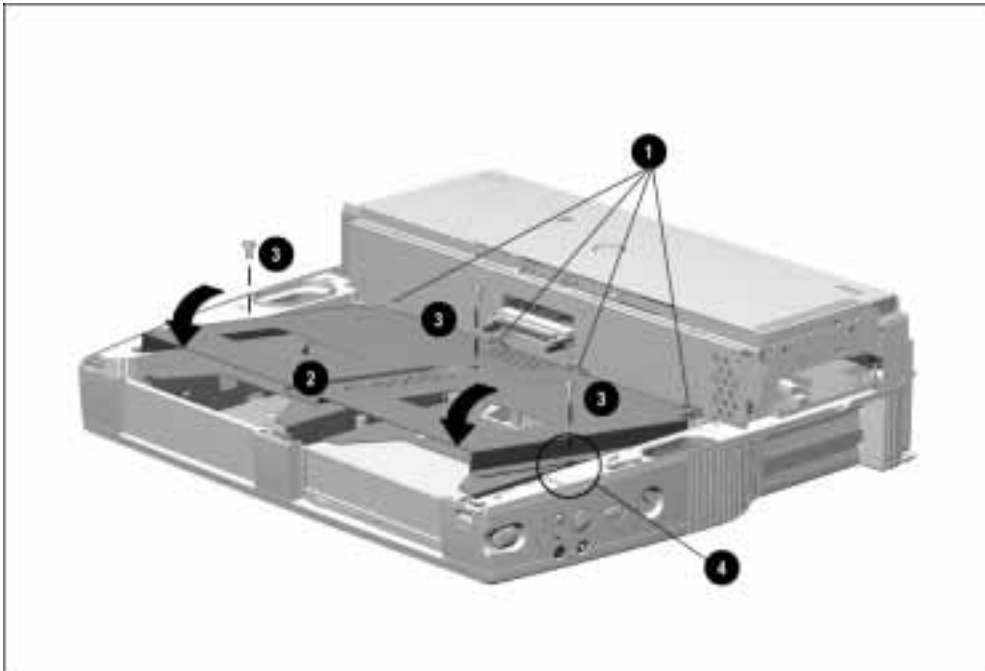

Figure 5-15. Installing the Drive Cage Shield
1. Align the tabs on the back of the shield ❶ with the slots in the backplane assembly (Figure 5-15).